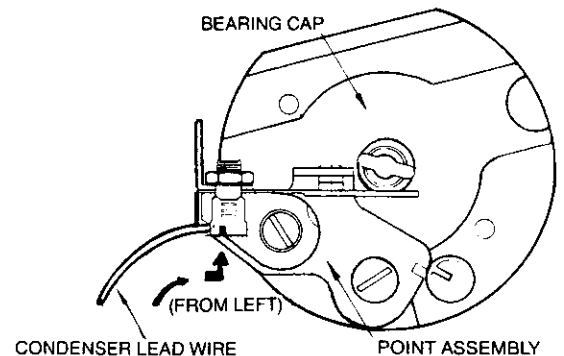

Figure 7.16
- Attach the terminal with the lead pointing left. (See Figure 7.16).